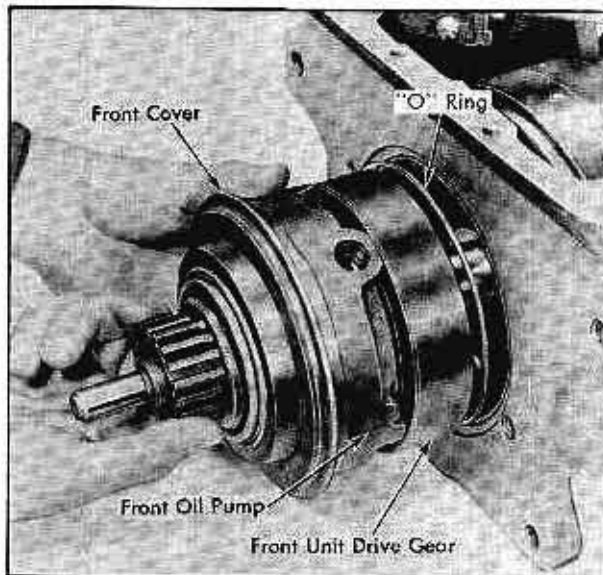

Fig. 14-25 Removing Front Oil Pump
4. Remove front oil pump assembly and front drive gear as an assembly. Fig. 14-25.